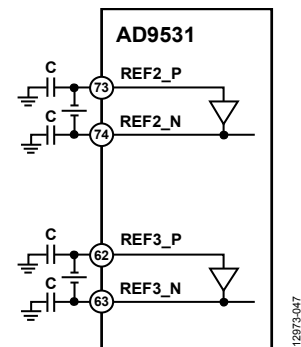

Figure 48. Interfacing the REF2 or REF3 Inputs to a Crystal Resonator
Figure 48 shows a typical crystal connection for both the PLL2 and PLL3 reference inputs. The internal input circuitry converts to an amplifier configuration to promote oscillation of the crystal resonator. The value of the shunt capacitors (C) connected to the crystal depends on the crystal manufacturer load capacitance (C_{LOAD}) specification for parallel resonance, as follows: